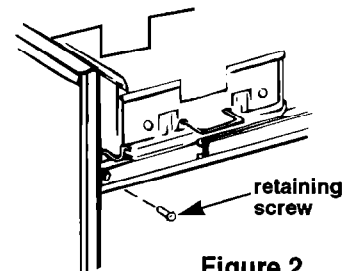

Figure 2
2. Fully open compactor drawer. Remove drawer retaining screws from track assembly on each side of drawer. See Figure 2. Carefully remove the drawer from the track assembly. Place drawer on its back on top of two corner post from carton.